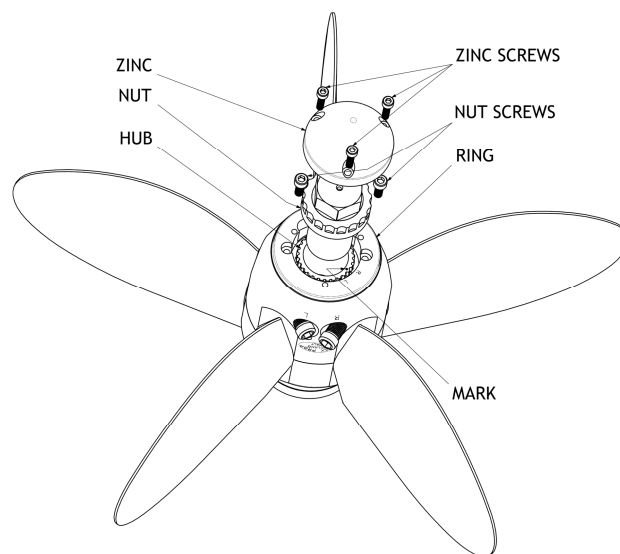

Fig. 6
In order to change the rotation of the MAX PROP WHISPER®, from a right hand rotation to a left hand rotation or vice versa do as follows, referring to fig. 6
- If you place the zinc bearing ring in its seat again, matching the “L” tooth with the hub reference mark, you have a left hand rotating propeller, on the contrary, with the “R” tooth you have a right rotating propeller as in fig. 6